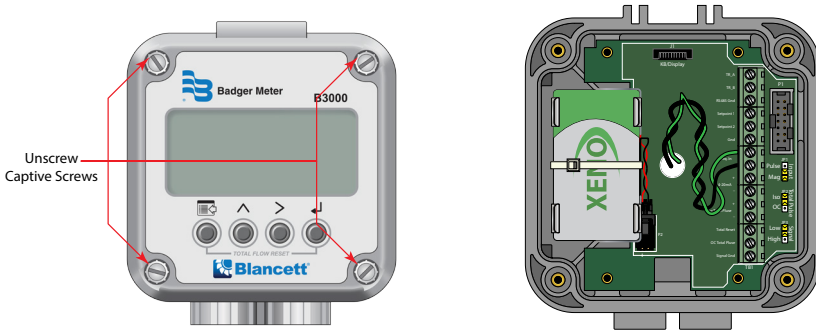
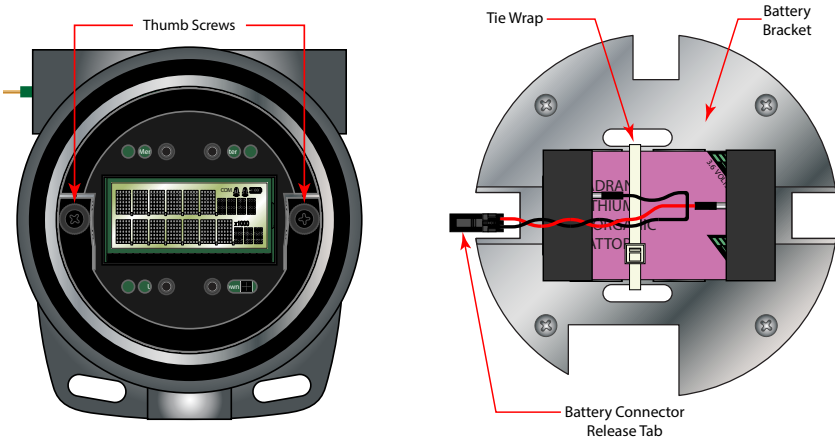

Figure 31: NEMA 4X battery replacement
Figure 32: Ex-proof battery replacement
**NOTE:** The battery is held in place with a wire-tie that will need to be cut and replaced (see Figure 31). The approval on the product requires the wire tie.
**REMOVE (DE-ENERGIZE) ANY EXTERNAL POWER FROM THE UNIT BEFORE REMOVING THE SCREW COVER FROM THE ENCLOSURE. FAILURE TO DO SO CAN BE DANGEROUS. (SEE FIGURE 31 ON PAGE 41 AND FIGURE 32.)**